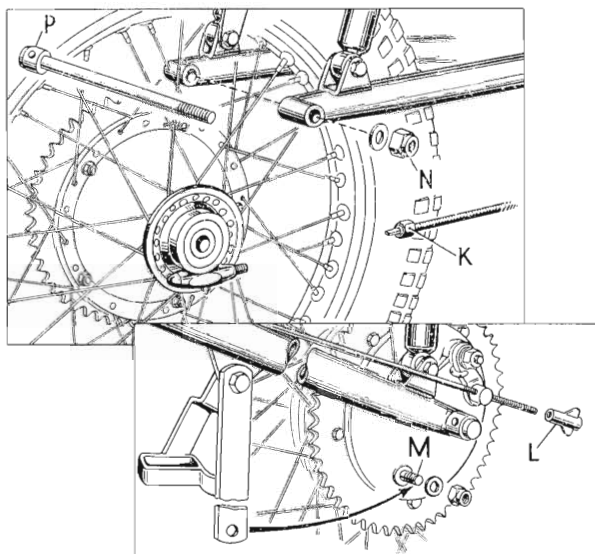

FIGURE 26. Removal of the rear wheel.
Adjustment of the brake is effected by turning the wing-nut (L) Fig. 26, in a clockwise direction (as seen from the rear of the machine).
Disconnect the speedometer cable from its driving unit at (K) FIG. 26, and then unscrew the brake adjuster (L) from the brake rod. Uncouple the chain at its spring link, and unwind it from the rear wheel sprocket, but leave it in position on the gearbox sprocket, to simplify replacement.
Disconnect the torque arm at the brake plate (M) FIG. 26, and slacken the front connection to allow the arm to remain suspended on the fork tube. Remove the wheel spindle nut (N) on the right side and with the aid of a tommy-bar, draw out the spindle (P) from the left side. Support the wheel while extracting the spindle and then lower to the ground and remove. When replacing the chain make sure that the connecting link spring clip has its closed end pointing in the direction of travel of the chain (i.e., forwards on the top run). Readjust the brake as required.